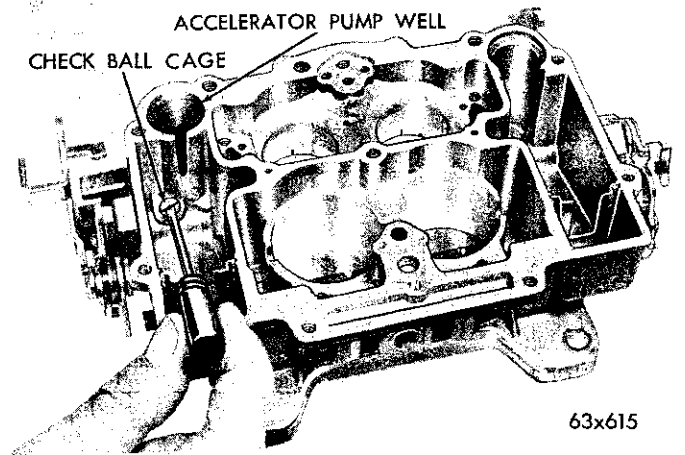

Fig. 11—Removing the Pump Inlet Check Ball Cage
(6) Using Tool T109-58, remove the accelerator pump inlet check ball and cage, as shown in Figure 11.
(7) Remove the idle mixture adjusting screws and springs from the throttle body casting.